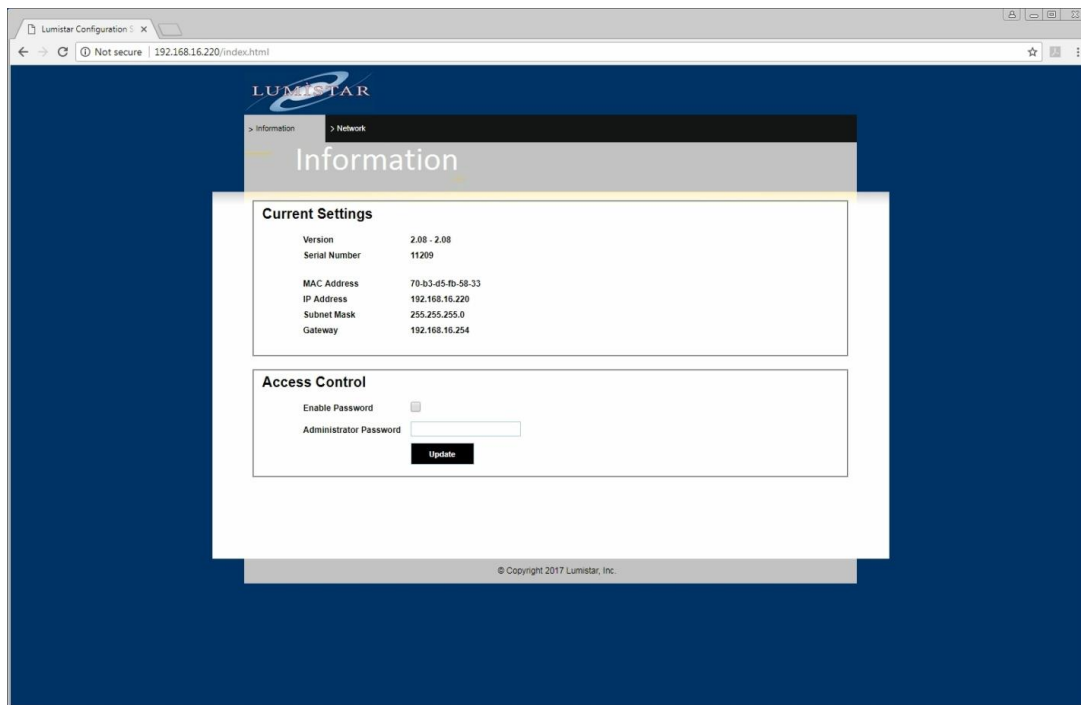

Figure 3-7 LS-28-DRSM Network Setup: Web Browser Information Setup Tab
Step 4: On a host machine connected to the same network as the LS-28-DRSM, launch a web browser window and enter the IP address in the address bar of the browser. The factory default IP address is **192.168.16.220**. This will result in web browser page display similar to the one shown in Figure 3-7. The tab provides network information to the user (as indicated) and the ability to administrative access controls. To set an administrative password, enter a password in the indicated box, select the ENABLE check box and click the UPDATE button at the bottom of the page.